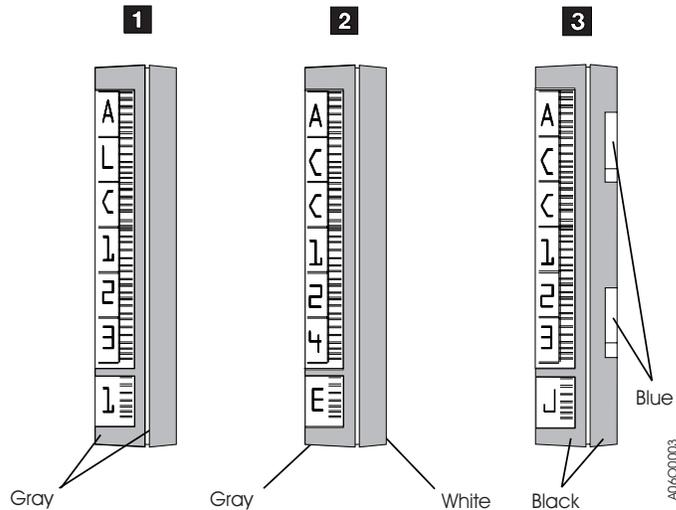

Figure 15. Cartridge System Tape Identification
Figure 15 on page 20 shows the Cartridge System Tape **1**, the Enhanced Capacity Cartridge System Tape **2**, and the High Performance Cartridge Tape **3**. Note the blue inserts of the High Performance Cartridge Tape cartridge and the placement of the media-type label (either 1, E, or J).
1. If both 3490E and 3590 drive types are installed in the 3494, all cartridges should have a label in the seventh character position (see Figure 15 on page 20).